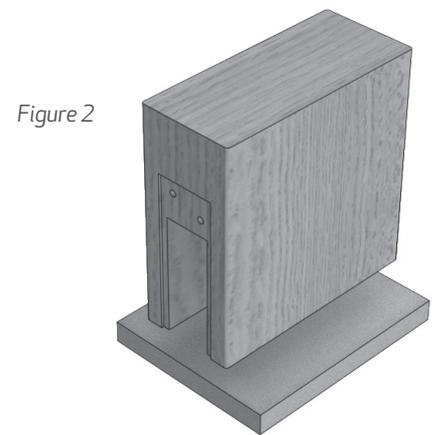

Figure 2
**Step 8** Position the seal in the groove and mark the end plate positions on the edge of the door. Cut out with a sharp chisel. See Figure 2.